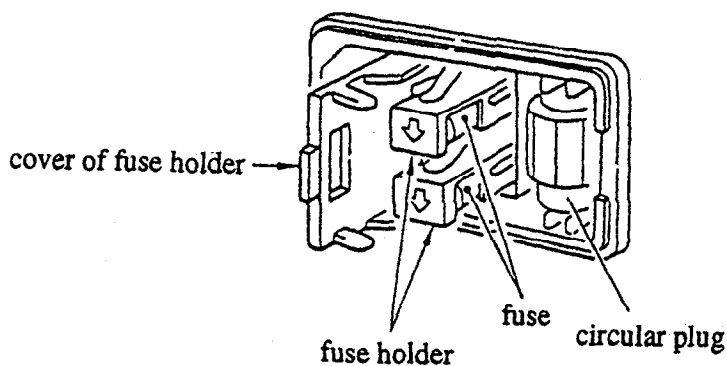

Fig. 4.7 Interior of fuse holder
- (4) Pull out the fuse holder, as shown in Figure 4.7.